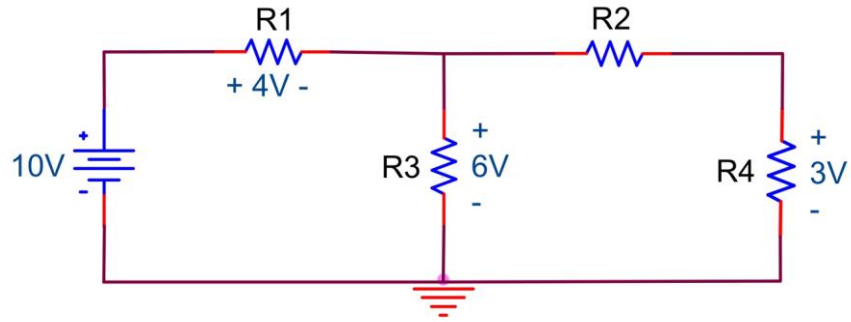

Figure 5.9
4. Choose values for resistors $R_1, R_2, R_3,$ and $R_4,$ and R_4 in Figure 5.9 to produce the voltages shown in the schematic.